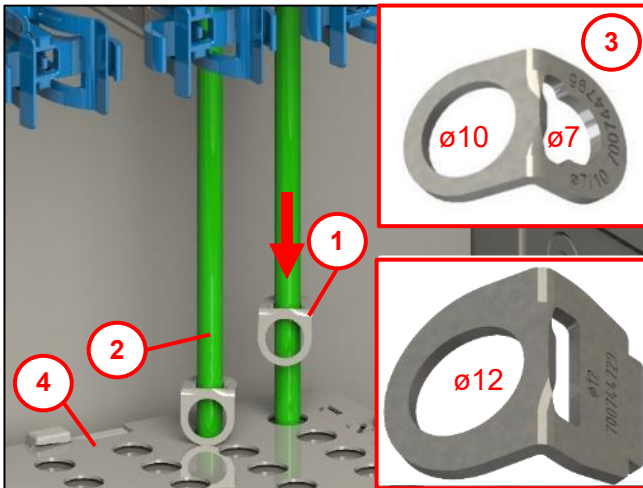

Fig. 16
Note: For reasons of space, the micro-duct pipes (3) (ø10 / ø12) and micro-duct gas stops (2) must be graduated, see Fig. 16.